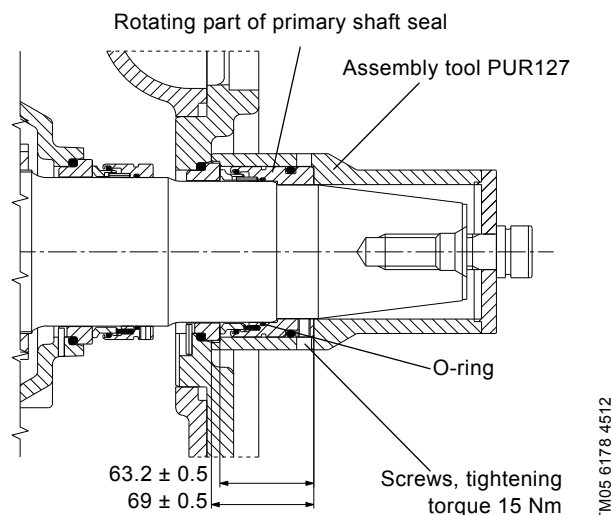

**Fig. 35** Fitting the stationary part of primary shaft seal, range 74
2. Lubricate and fit the O-ring on the stationary part of the primary shaft seal (105). Fit the shaft seal on the shaft and press it home (P and Q). See fig. 35.
*Make sure that the pin in shaft seal housing (58) fits into the notch of the stationary part.*